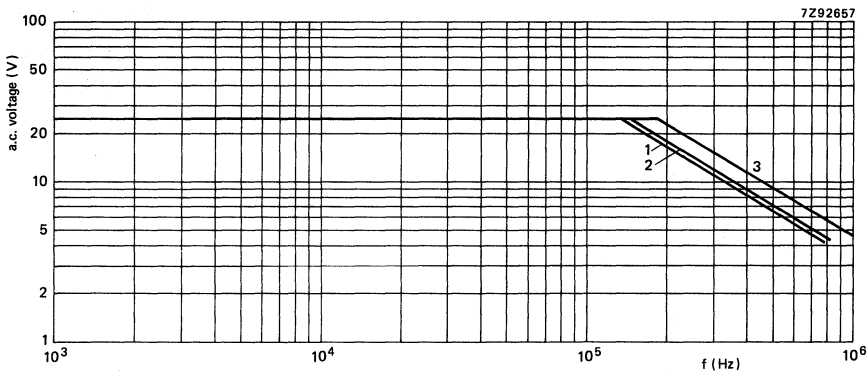

Fig. 2 Maximum a.c. voltage (r.m.s. value) as a function of frequency at $T_{amb} \leq 55 \text{ }^\circ\text{C}$, for $U_R = 63 \text{ V}$.
* At $T_{amb} \leq 70^{\circ}\text{C}$ ($\leq 55^{\circ}\text{C}$ for 63 V version) the maximum permissible sinusoidal voltage can be found in Figs 2 to 5.